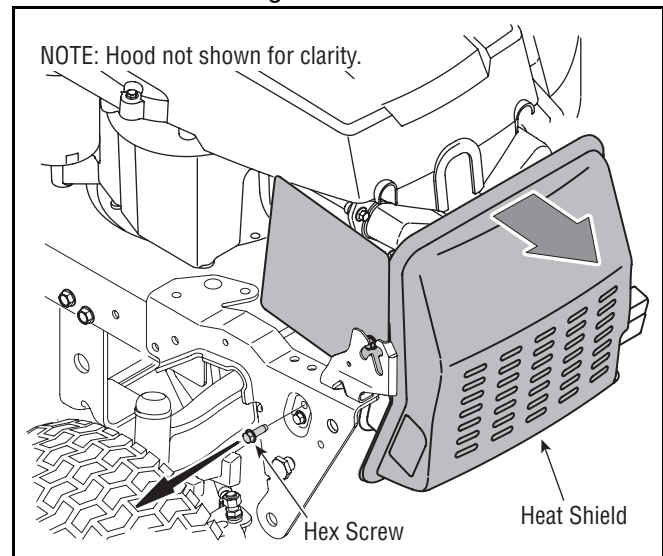

Figure 19
2. Remove the upper hex screws that secure the heat shield in place, on both the left side and right side of the tractor. See Figure 19.